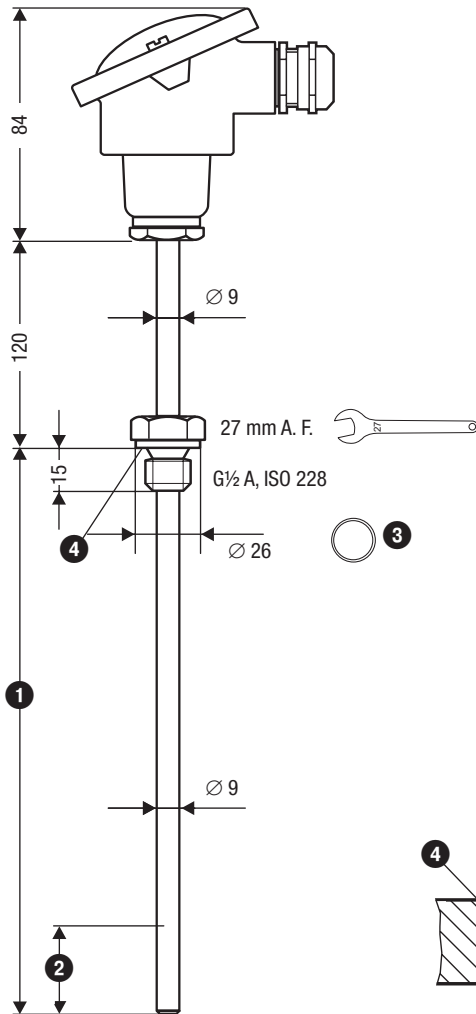

Fig. 2
- Install the temperature sensor such that the temperature-sensitive part ②, ⑥ is permanently immersed in the fluid. **Fig. 2 and Fig. 4**